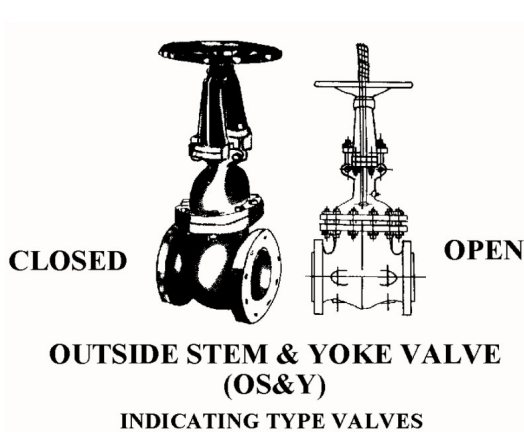

Figure 6
- Outside Screw & Yoke (OS&Y) [See Figure 6]